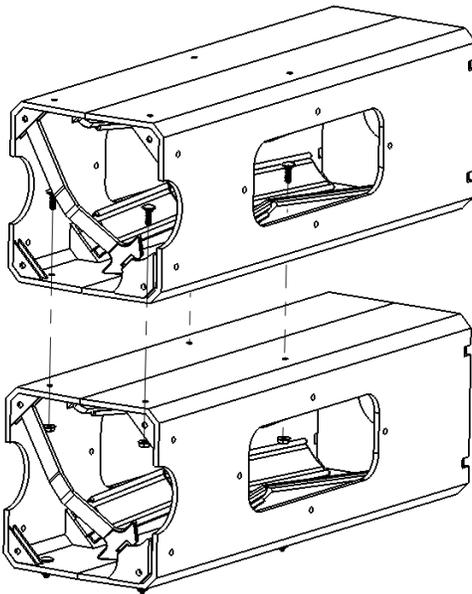

FIGURE 2a
When attaching an additional Cylinder Mate to the top of another (**See Figure 2a**), use the same (4) mounting locations as the one below.